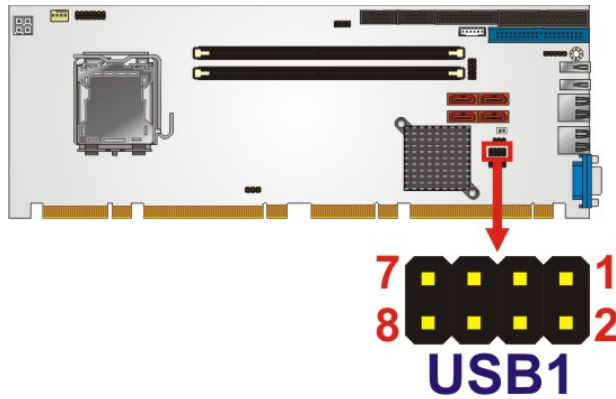

Figure 3-18: USB Connector Pinout Locations
- CN Location:** See **Figure 3-18**